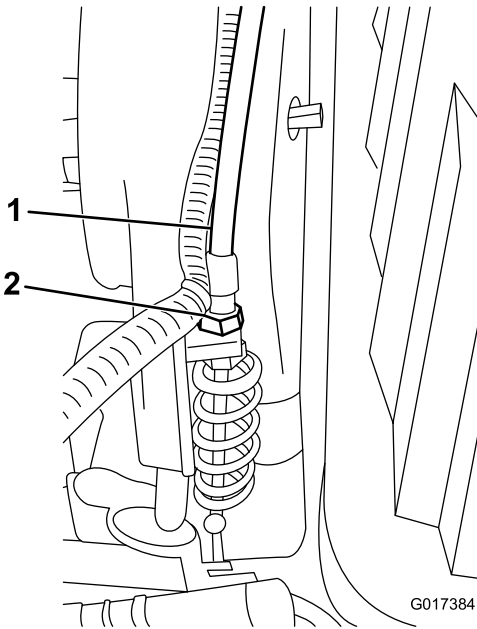

Figure 51
3. At the transmission bulkhead, adjust the reel-control cable (Figure 51), to attain a spring length of 70.6 to 72.4 mm (2.78 to 2.85 inches).